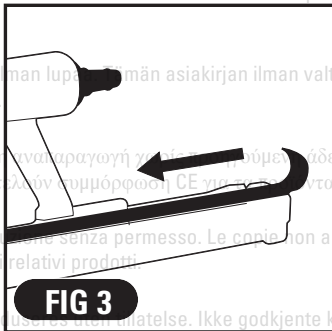

FIG 3
3. Push magazine forward. (Fig. 3)